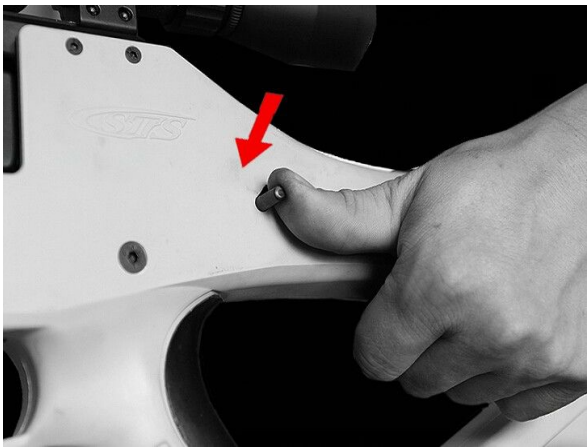

Figure.12
2.Hold the handle!apply a slight pressure in the draw direction. Use the other hand to push down the ratchet release button. Make the handle counterclockwise rotation slowly until the the release assembly return to original positions(Figure 12&13).